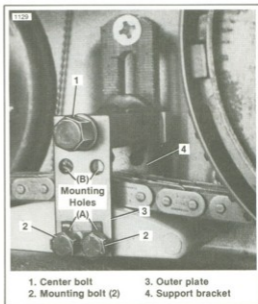

Figure 6-2. Replacing the Adjusting Shoe
Replacing the Adjusting Shoe (Figure 6-2)
1. See Figure 6-2. Remove the center bolt (1) and two bottom bolts (2). Remove the shoe and replace it.